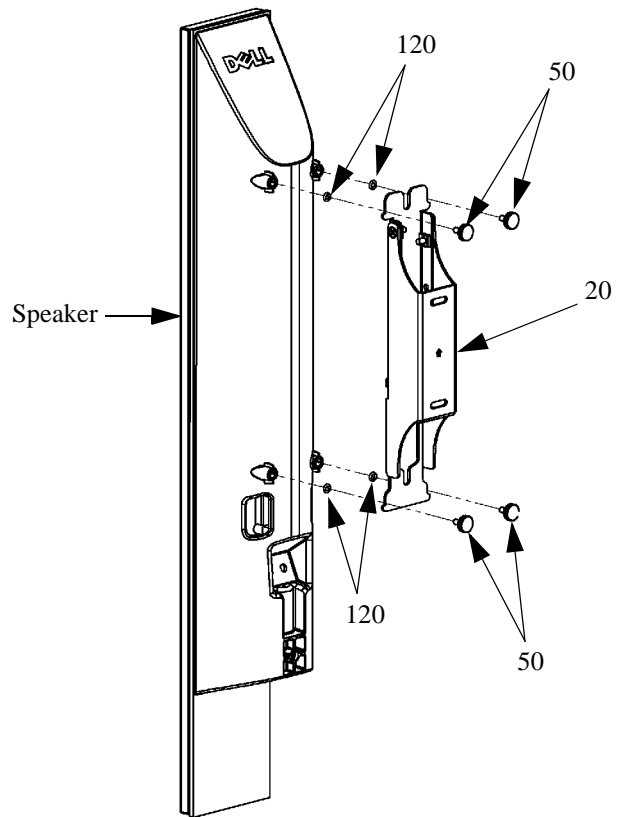

Figure 13. Install Speaker Using Four Thumb Screws
1. Install four thumb screws (60) into the threaded holes on the speaker. Do not tighten the thumb screws at this point. (see Figure 13).